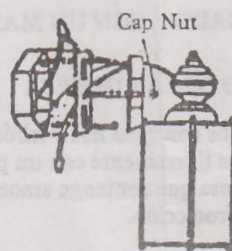

FIG.6
- b) Place fixture over nipple and secure with cap nut provided. (FIG.6)